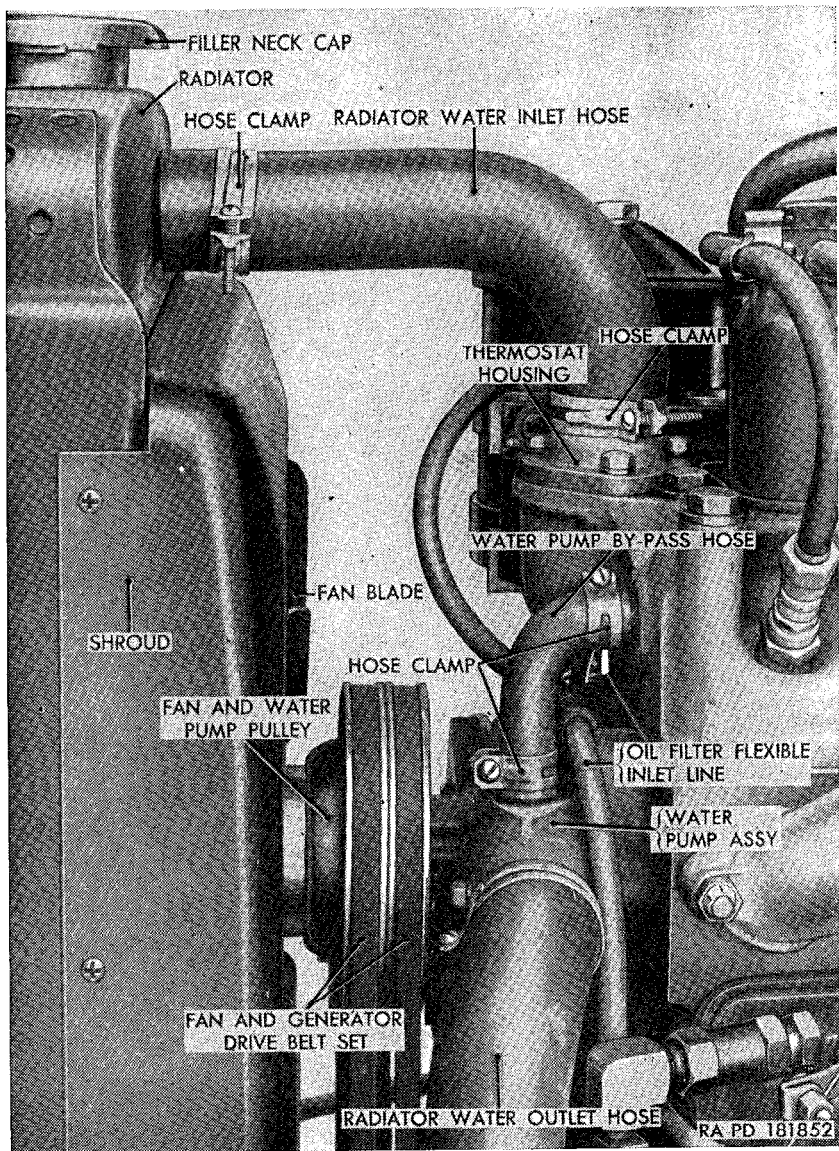
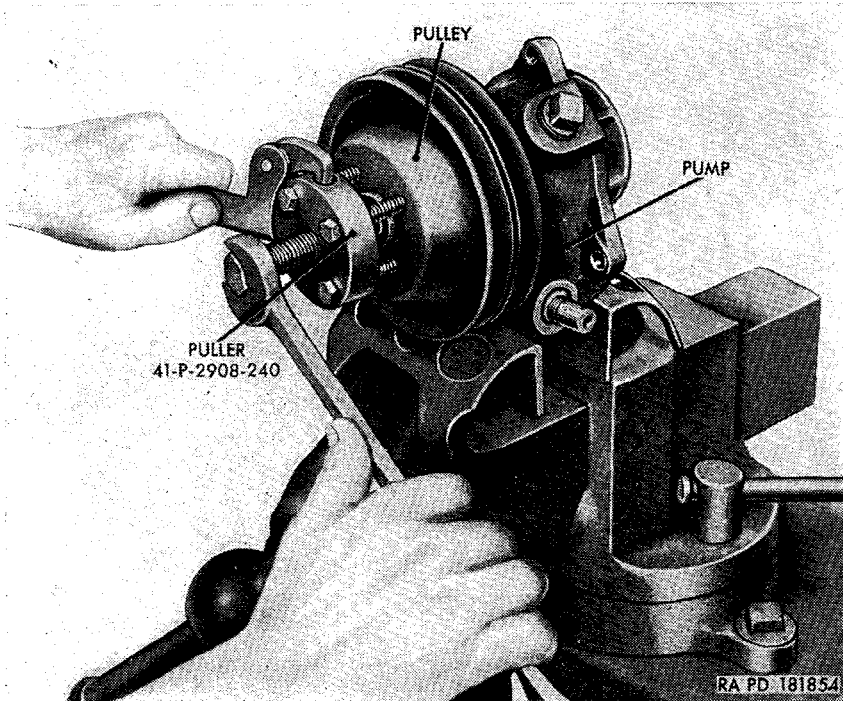

Figure 60. Cooling System.
Figure 63. Removing fan and water pump pulley from water pump assembly, using puller—41-P-2908-240.
a. *Description.* The cooling system (fig. 60) includes the radiator, fan, water pump, water temperature thermostat, fan and generator drive belts, and connecting hose and fittings. The radiator is the cellular-type with upper and lower tanks. A pressure-type filler neck cap permits cooling system pressure to rise to 4½ psi. The four-blade fan and the centrifugal-type water pump are driven from the generator drive pulley by a matched pair of V-belts. The water temperature thermostat is a bellows-type, located on top of the cylinder head in the thermostat housing. With the coolant below normal operating temperature (160° to 180° F.), the thermostat blocks coolant return to the top of the radiator, returning the coolant directly to the pump through the water pump bypass.
- (1) Drain the cooling system (par. 127*a*(1)) and remove the radiator guard (pars. 257*a* for the M38A1 and 266*a* for the M170).
- (2) Loosen the hose clamp screws on the radiator water inlet and water outlet hose (fig. 60) and pull hose from connections on radiator.
- (3) Lift the radiator with shroud assembly off the radiator-to-engine support rods, taking care that the radiator core does not rub against the fan blade.
(fig. 60)
*a. Removal* (fig. 60).
- (1) Remove the radiator with shroud assembly (par. 128*a*). Loosen the hose clamps screw on the water pump end of the radiator water outlet hose, and remove hose with clamp from connection on the water pump. Loosen the hose clamp screw on the water pump end of the water pump bypass hose. Remove the fan and generator drive belt set (par. 130*b*).
- (2) Remove the four bolts and lockwashers securing the fan blade to the fan and water pump pulley, and remove fan blade.
- (3) Remove the four screws and lockwashers securing the water pump to the cylinder block. Pull the pump with pulley and gasket from the cylinder block, at the same time, slipping the connection on the water pump out of the end of the water pump bypass hose. Discard gasket.
- (4) Clamp the water pump in a vise with soft jaws. Using puller—41-P-2908-240 (fig. 63), remove the pulley from the pump.
- (1) Place the fan and water pump pulley on the end of the water pump shaft and press it onto the shaft until the front face of the pulley hub is flush with the end of the shaft.
- (2) Make sure the gasket surfaces of the cylinder block and water pump body are clean and free of rust or scale. Place a new gasket on the water pump body with the gasket holes aligned with the bolt holes in the water pump body.
- (3) Position the water pump assembly (fig. 60) in the opening in the front of the cylinder block, at the same time, sliding the water pump bypass hose with clamp over the connection on the water pump.
- (4) Insert a  $\frac{5}{16} \times 2\frac{1}{2}$  screw, with lockwasher, through the hole in the water pump body inlet opening. Start the threads but do not tighten. Insert a  $\frac{9}{16} \times \frac{7}{8}$  screw, with lockwasher, into the top mounting hole in the water pump body and through the clip securing the flexible oil line to the cylinder block, and start the threads. Insert two  $\frac{5}{16} \times \frac{7}{8}$  screws, with lock-
- (5) Place the fan on the front of the fan and water pump pulley with the concave side of the blades toward the engine. Secure the fan blade to the pulley with four  $\frac{1}{4}$  x  $\frac{5}{8}$  bolts and lockwashers.
*a. Removal.* Drain the cooling system (par. 127a(1)) sufficiently to lower the level of the coolant below the thermostat housing. Remove the three screws and lockwashers securing the thermostat housing (fig. 60) to the cylinder block. Lift the end of the radiator water inlet hose, with thermostat housing and gasket attached, from the